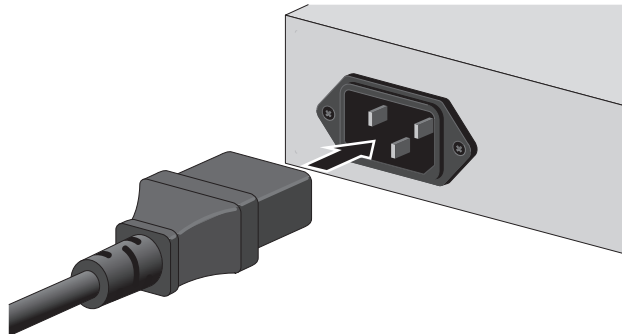

Figure 23. Connecting the AC Power Cord
2. Plug the power cord into the AC power connector on the back panel of the switch, as shown in Figure 23.